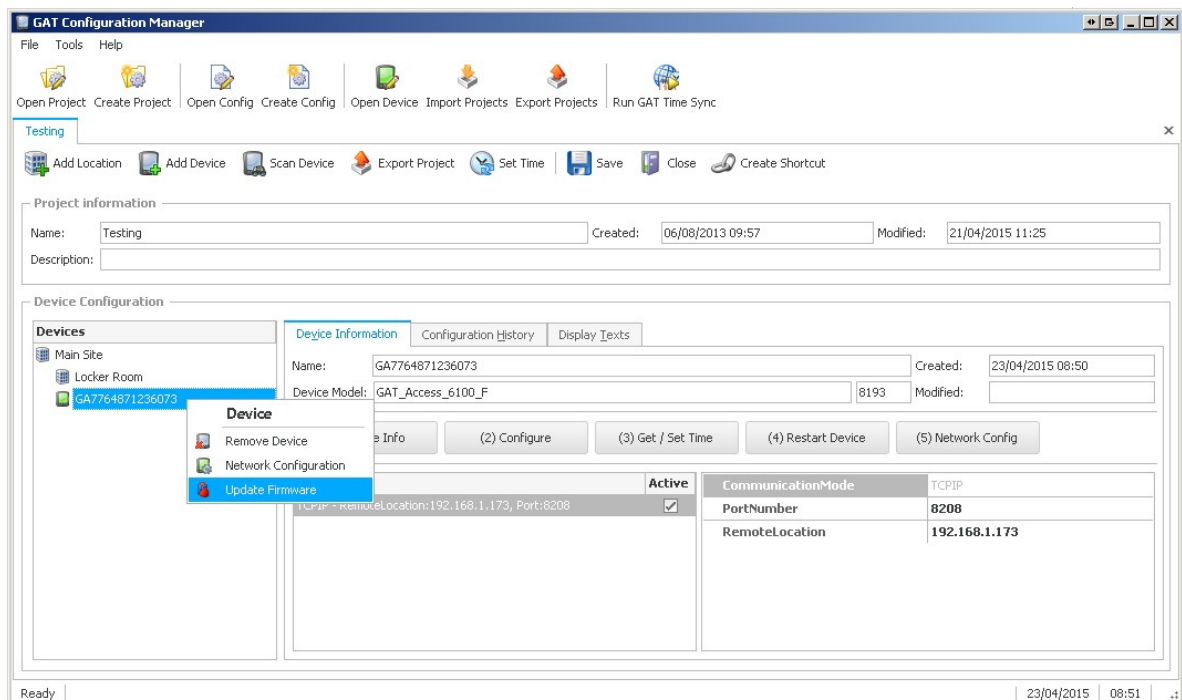

Figure 7.1 – Update the GAT Access 6600 firmware
- Right-click on the GAT Access 6600 in the device tree and select “Update Firmware” from the menu (Figure 7.1).